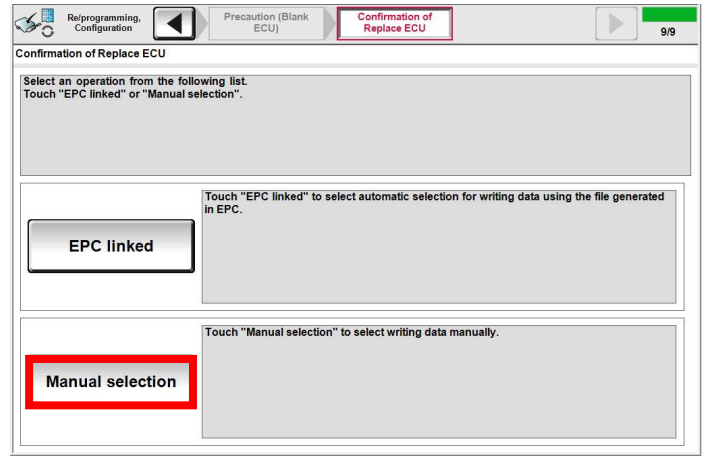

Figure 23
25. Select **Manual Selection**. (Figure 23)